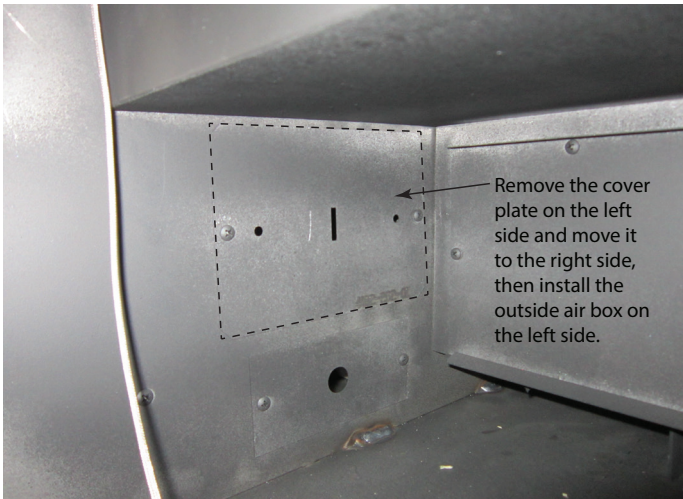

Figure 3.14 Remove Cover Plate (Left Side)
6. On the right side, remove the cover plate two (2) screws. See Figure 3.14.